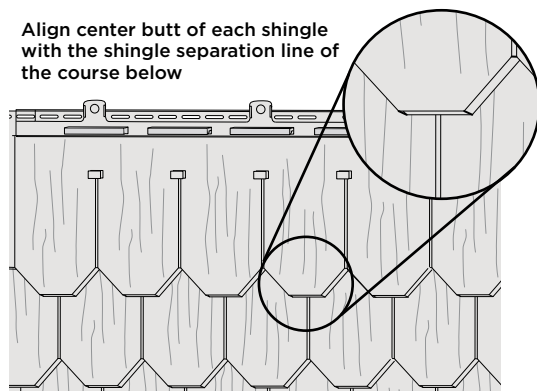

figure 6
9. Repeat steps 1 through 8 as you move up the wall (figure 6).